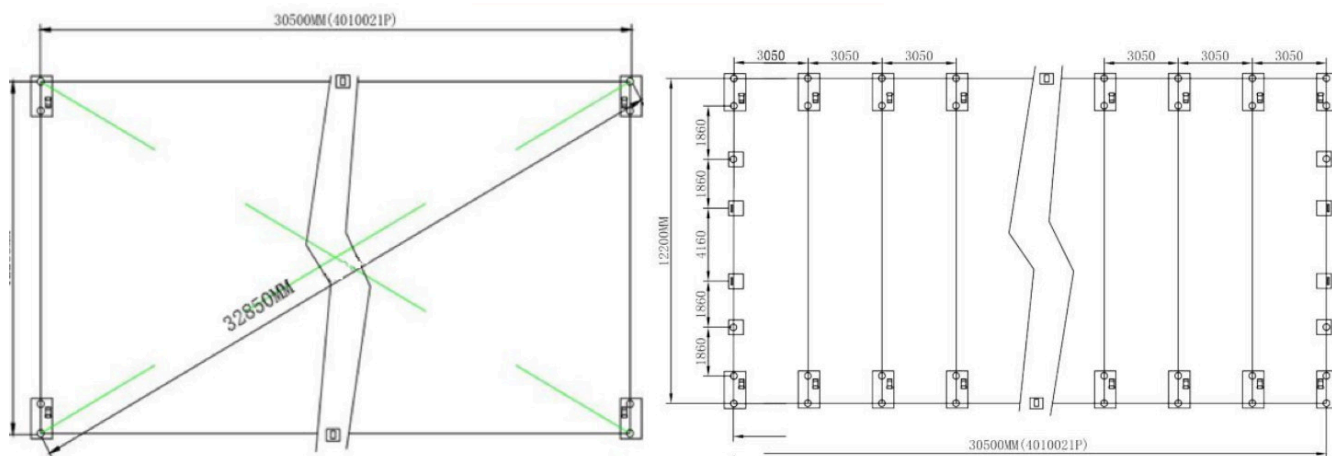

Fig. 2 - Base plate layout, model 4010021P
- 1** Measure the distances from tube centre to tube centre. Confirm the position of each base plate against the drawing (Fig. 2). Make sure the base plates are at right angles.